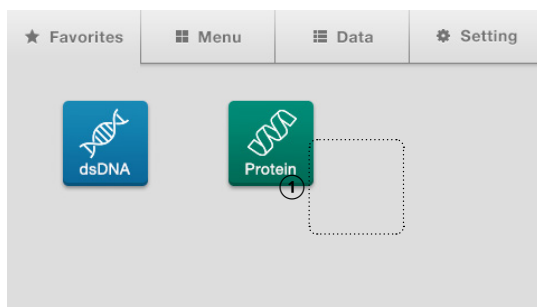

Fig. 4.2
1. [Fig. 4.2] Press ① [Protein] on the Favorites screen.